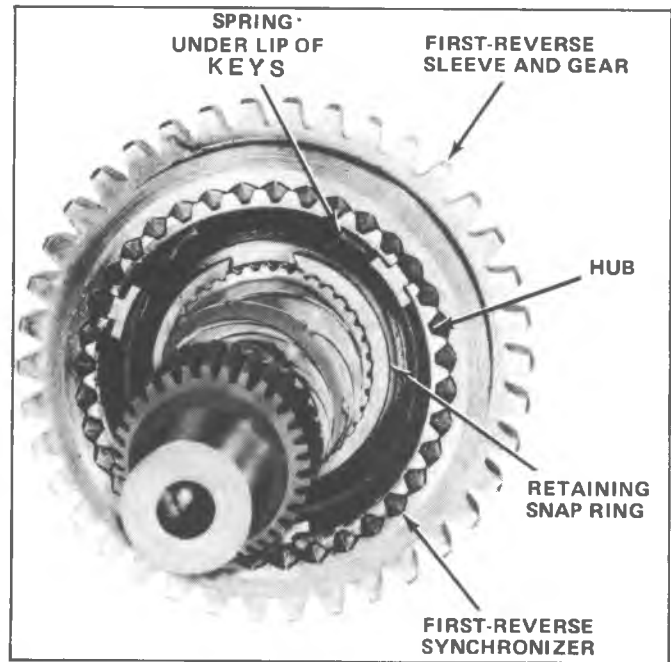

Fig. 13R--First-Reverse Synchronizer Hub
4. Remove sleeve and gear, spring and three keys from hub (fig. 13R).
synchronizer sleeve (fig. 13R).